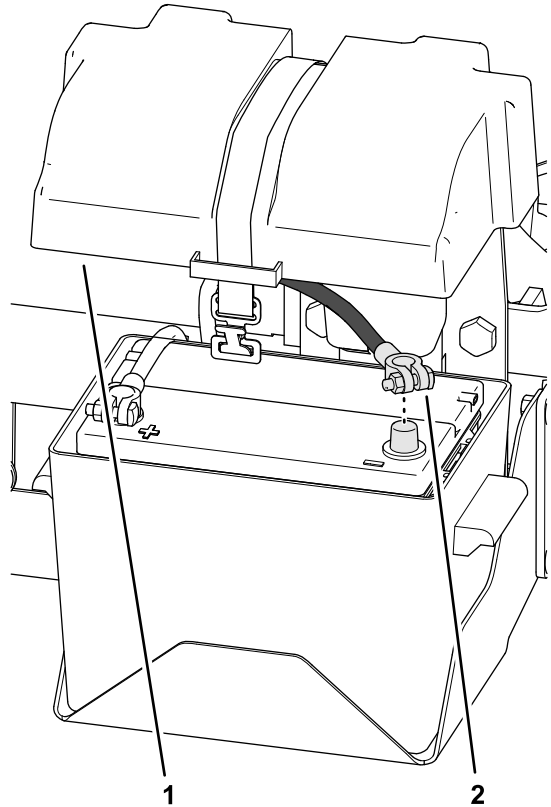

Figure 1
1. Remove the cover from the battery box (Figure 1).
2. Remove the negative-battery cable from the battery (Figure 1).